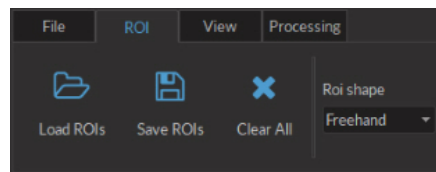

Figure 5.3: ROI Tab
2. The **ROI tab** (Fig. 5.3) is used to save/load data relating to regions of interest drawn on an image.